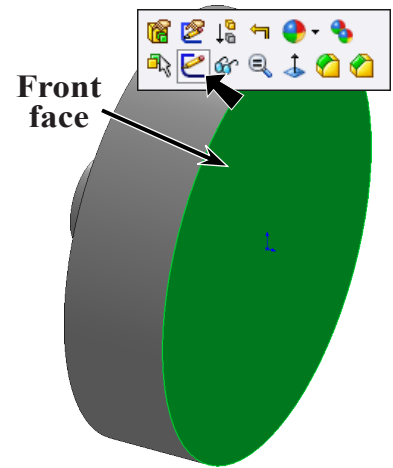

Fig. 12
Step 2. Click **front face of Rim** and click **Sketch**  on the Content menu, **Fig. 12**.